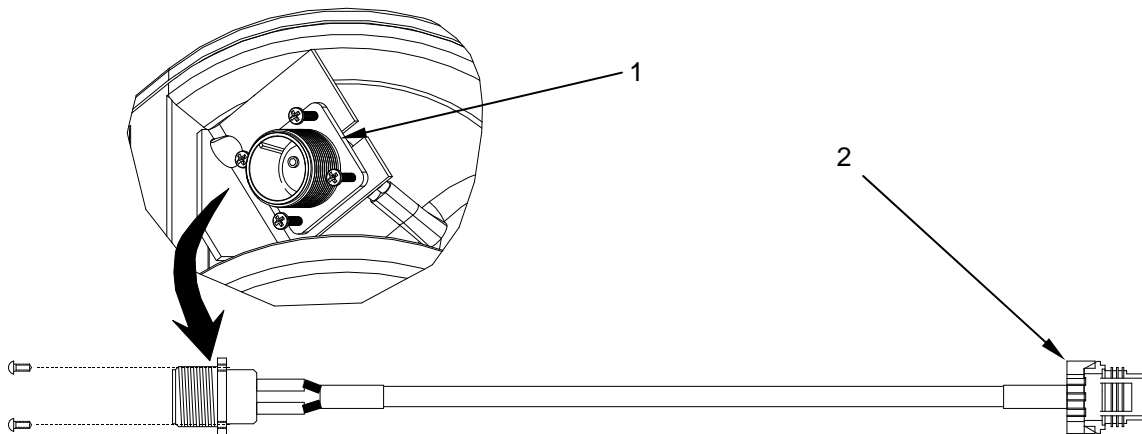

Figure 1. Inspect the Electrical Connector Assembly.
1. Inspect the electrical connector (Figure 1, Item 1) for dents, loose or missing fasteners, and other damage that may prevent proper connection of a power cable.
2. Follow the wire from the connector and inspect the quick disconnect (QD) (Figure 1, Item 2) connector at the opposite end of the cable for secure connection.